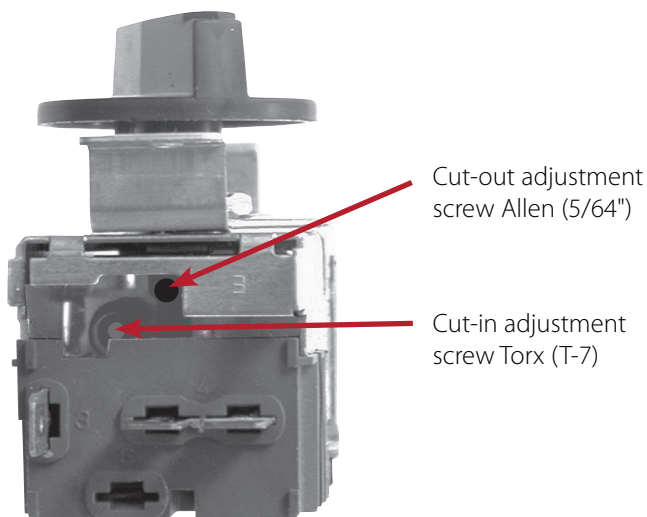

Fig. 1. Cut-in and cut-out adjustment screw locations on the control's bottom.
4. Turn the cut-in and cut-out adjustment screws (see fig. 1) the desired amount clockwise.